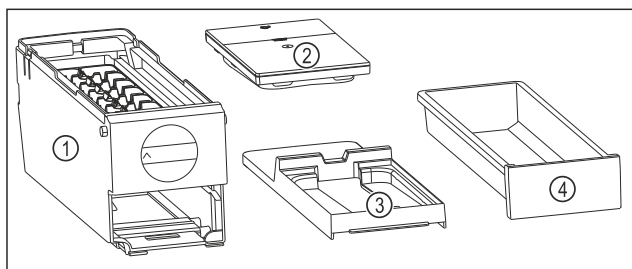

Fig. 88 Components of the EasyTwist-Ice
- EasyTwist-Ice is dismantled into four parts. (see Fig. 88)
- Only dismantle the EasyTwist-Ice into the components shown. (see Fig. 88)
- Clean the EasyTwist-Ice body Fig. 88 (1) as a whole.